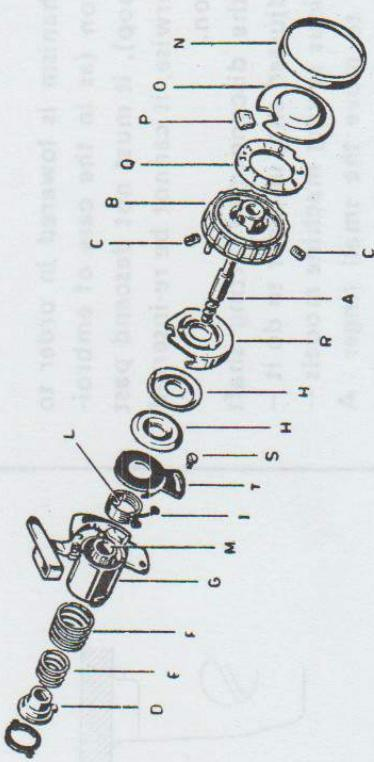

Fig. 24
When the group is assembled, the tension axle A (fig. 24) – which is fastened to knob B by means of two screws C – is screwed into the threaded locking nut D which, in turn, rests on the two
The check spring I (fig. 24), which is equipped with a small folded tail L, must be inserted onto the notched sleeve M of part G.
- with a pocket-knife blade or a specially prepared small hook remove outer ring N (fig. 24) by prying it off.
We have already dealt with the possibility of adjusting the initial load of the take-up-lever spring by shifting the small tail L of the spring (fig. 24) on the notched sleeve M.
We will deal hereunder with the *spring movement*. By loosening screw S (fig. 24) and by rotating the small plate T clockwise, the movement of the